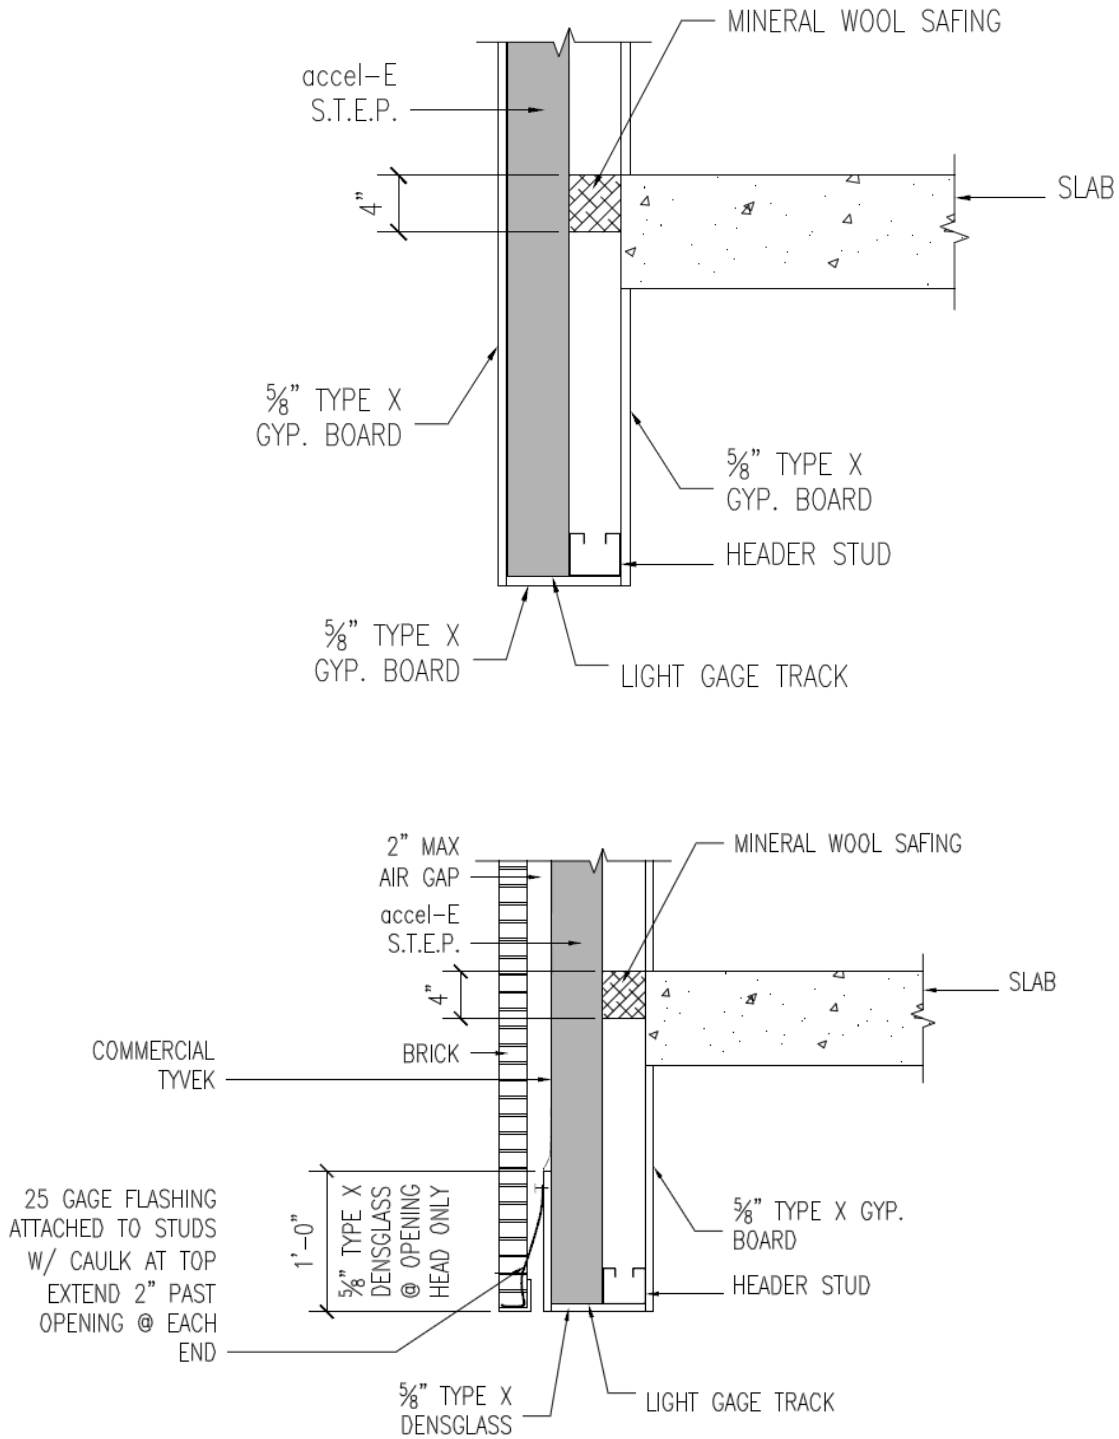

Figure 9 – NFPA 285 Details
- Non-Load Bearing wall assemblies shown in Tables 11 and 12 meet NFPA 285 condition of acceptance for use in exterior walls of Type I, II, III or IV in accordance with Section 2603.5.5 of the IBC and FBC. See Figure 9 for typical installations.
Non-Load Bearing <ul style="list-style-type: none"> 5/8" Type-X Gypsum Sheathing 5-1/2" accel-E® Panel Studs @ 24" O/C 2" R8.33 Glass Fiber Insulation 25 GA Resilient Channel spaced @ 24" O/C (2) Layers 5/8" Type X Gypsum <hr/> See Figure 9 for additional NFPA 285 information.
Non-Load Bearing <ul style="list-style-type: none"> 5/8" Type-X Gypsum Sheathing 5-1/2" accel-E® Panel Studs @ 24" O/C 2" R8.33 Glass Fiber Insulation 25 GA Resilient Channel spaced @ 24" O/C 5/8" Type X Gypsum <hr/> See Figure 9 for additional NFPA 285 information.